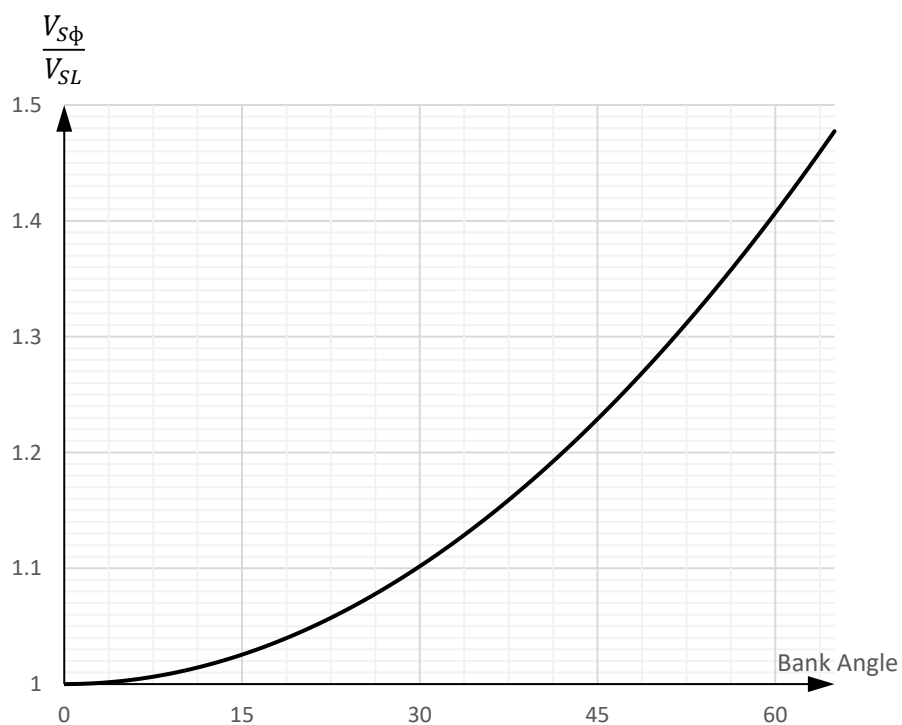

Figure 5-2
3. Effect of bank angle on stall speed: see Figure 5-2